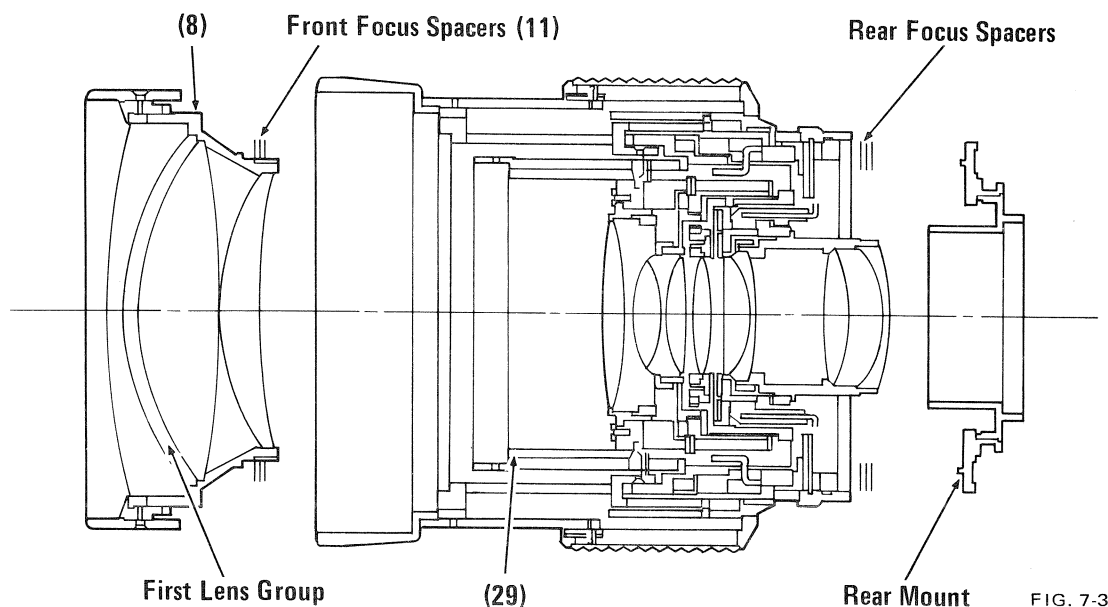

FIG. 7-3
Front focus spacers (11) are supplied in thicknesses of 0.1, 0.15, 0.2 and 0.4mm. Fig. 7-3.
Rear focus spacers are supplied in thicknesses of 0.1, 0.15 and 0.2mm. (Consult parts list and exploded drawings for part numbers.) Fig. 7-3.
- If first lens group slide housing (29) was replaced in the repair procedure, place front focus spacers (11) between first lens group housing (8) and first lens group slide housing with an initial thickness of 0.6mm. Fig. 7-3.